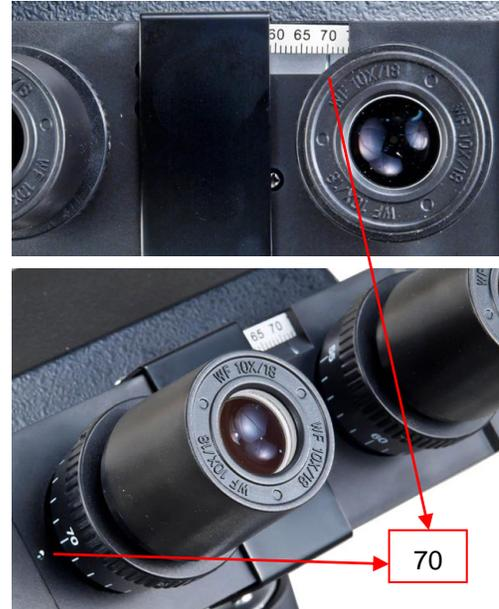

Fig.6
- 2) Rotate the diopter rings on the eyepiece tubes until its numerical value is the same as your interpupillary distance, for example, **70** in the figure (See **Fig. 6**).